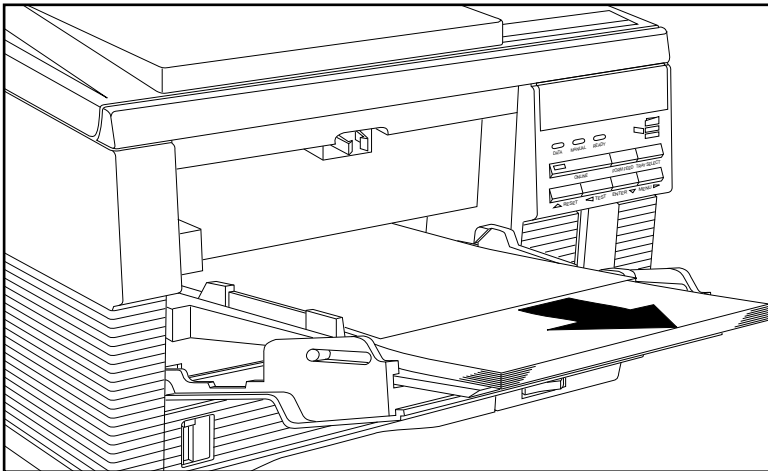

Fig. 10.3 Remove the Jam from the Fold Down Tray
3. Check the fold down tray slot for a media jam. If it is there, gently pull the media out in the direction of the arrow in figure 10.3.